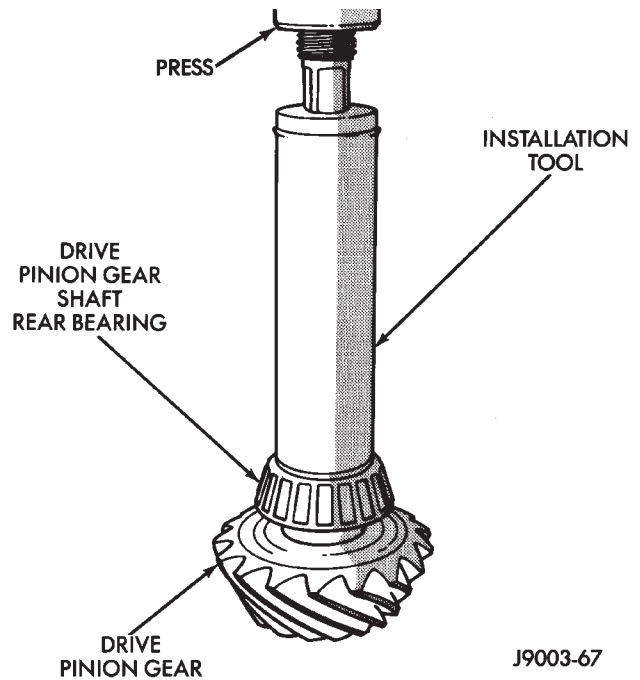

Fig. 32 Shaft Rear Bearing Installation
(7) Place the proper thickness depth shim on the pinion gear.
(8) Install the rear bearing and slinger, if equipped, on the pinion gear with Installer W-262 (Fig. 32).